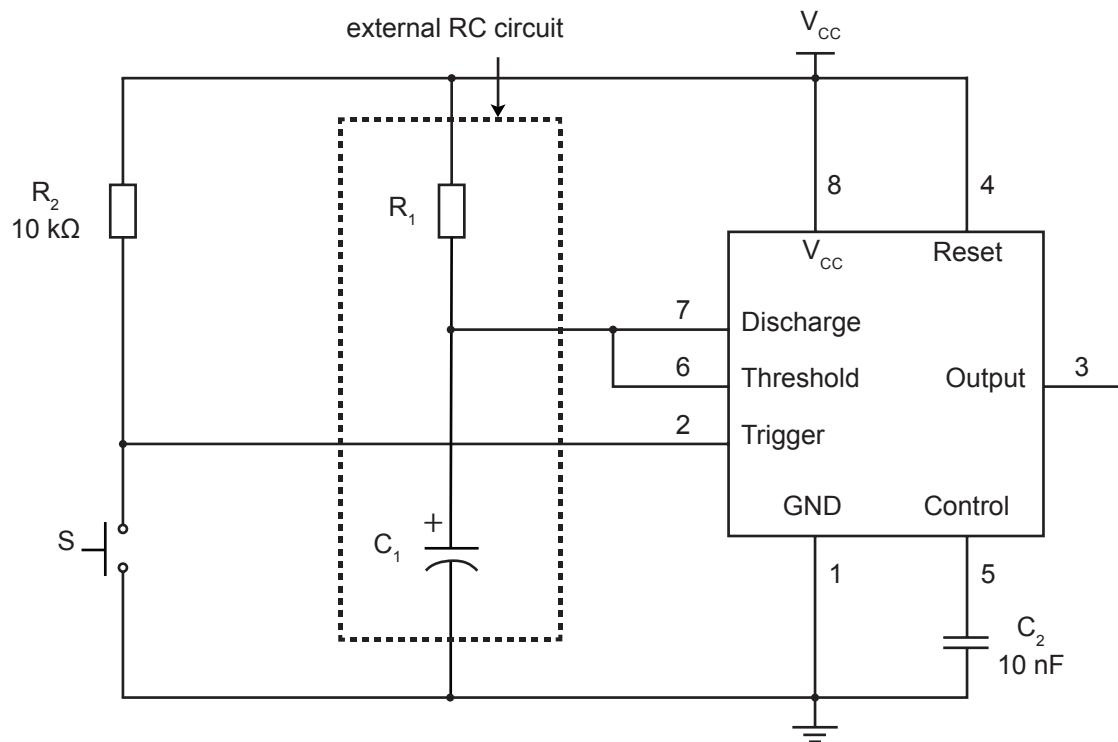

Figure 14.18 555 timer IC connected to operate as a monostable multivibrator
Figure 14.18 shows how the 555 timer IC can be connected to work as a monostable multivibrator. Note the following:
Refer to Figure 14.18. Given that $R_1 = 5.6 \text{ k}\Omega$, $R_2 = 10 \text{ k}\Omega$ and $C_1 = 47 \mu\text{F}$, calculate the pulse width of the output when switch S is pushed.
A student plans to use the monostable multivibrator circuit in Figure 14.18 to provide a single pulse of 45 s. Determine the values of R_1 and C_1 that should be used.
2. A student plans to use the monostable multivibrator circuit in Figure 14.18 to provide a single pulse with a width of 3.0 s. Determine the values of R_1 and C_1 that should be used.